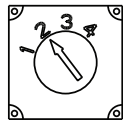

Figure 4: Voltage/Battery Profile Select Switch
- Regulator **IGN terminal** (required) must receive voltage from vehicle DC ignition source or multiplex, to energize regulator. Torque terminal hardware to 3.4 Nm/43 lb. in. See Figures 4 and 5.